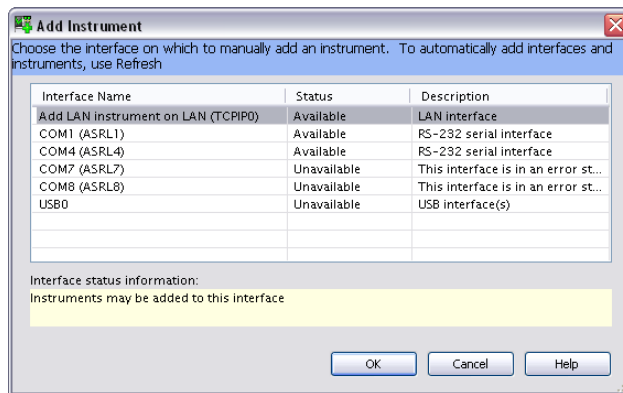

Figure 1-11 Add Instrument window
- 2 On the Keysight Connection Expert window, click on  **Add Instrument**. An Add Instrument window will be prompted out. Select **Add LAN instrument on LAN (TCPIPO)** interface and click **OK** (see Figure 1-11).